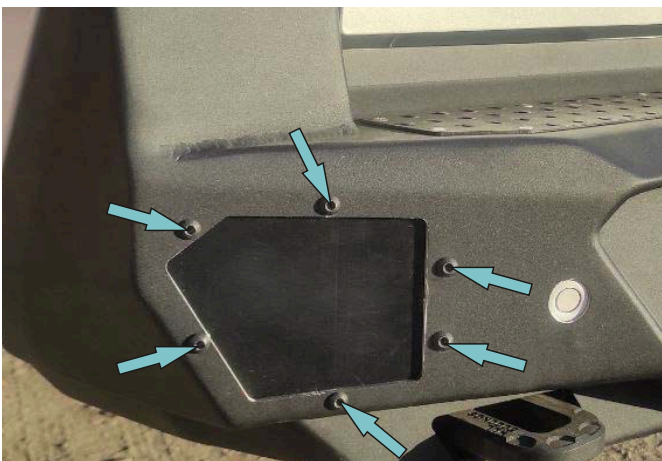

Fig. 23
23. Install radar plugs (item 10) using screws M6x16, washers 6 and nuts M6 (item B, D, F) (Fig.23).